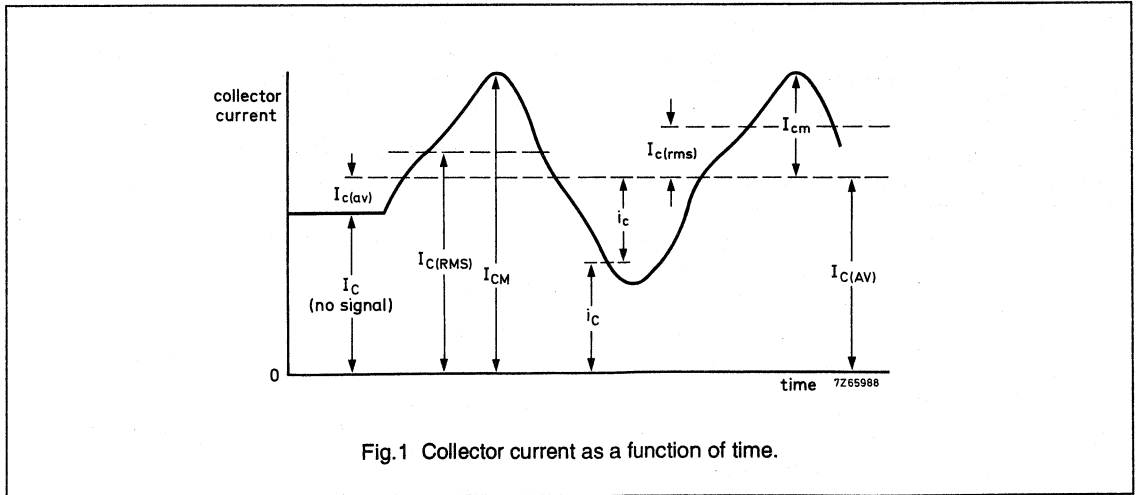

Fig.1 Collector current as a function of time.
- $I_{2C}$  continuous (DC) current flowing into the collector terminal of the second unit
- $V_{1C-2C}$  continuous (DC) voltage between the collector terminals of the first and second units.
Figure 1 represents a transistor collector current as a function of time. It comprises a continuous (DC) current and a varying component.